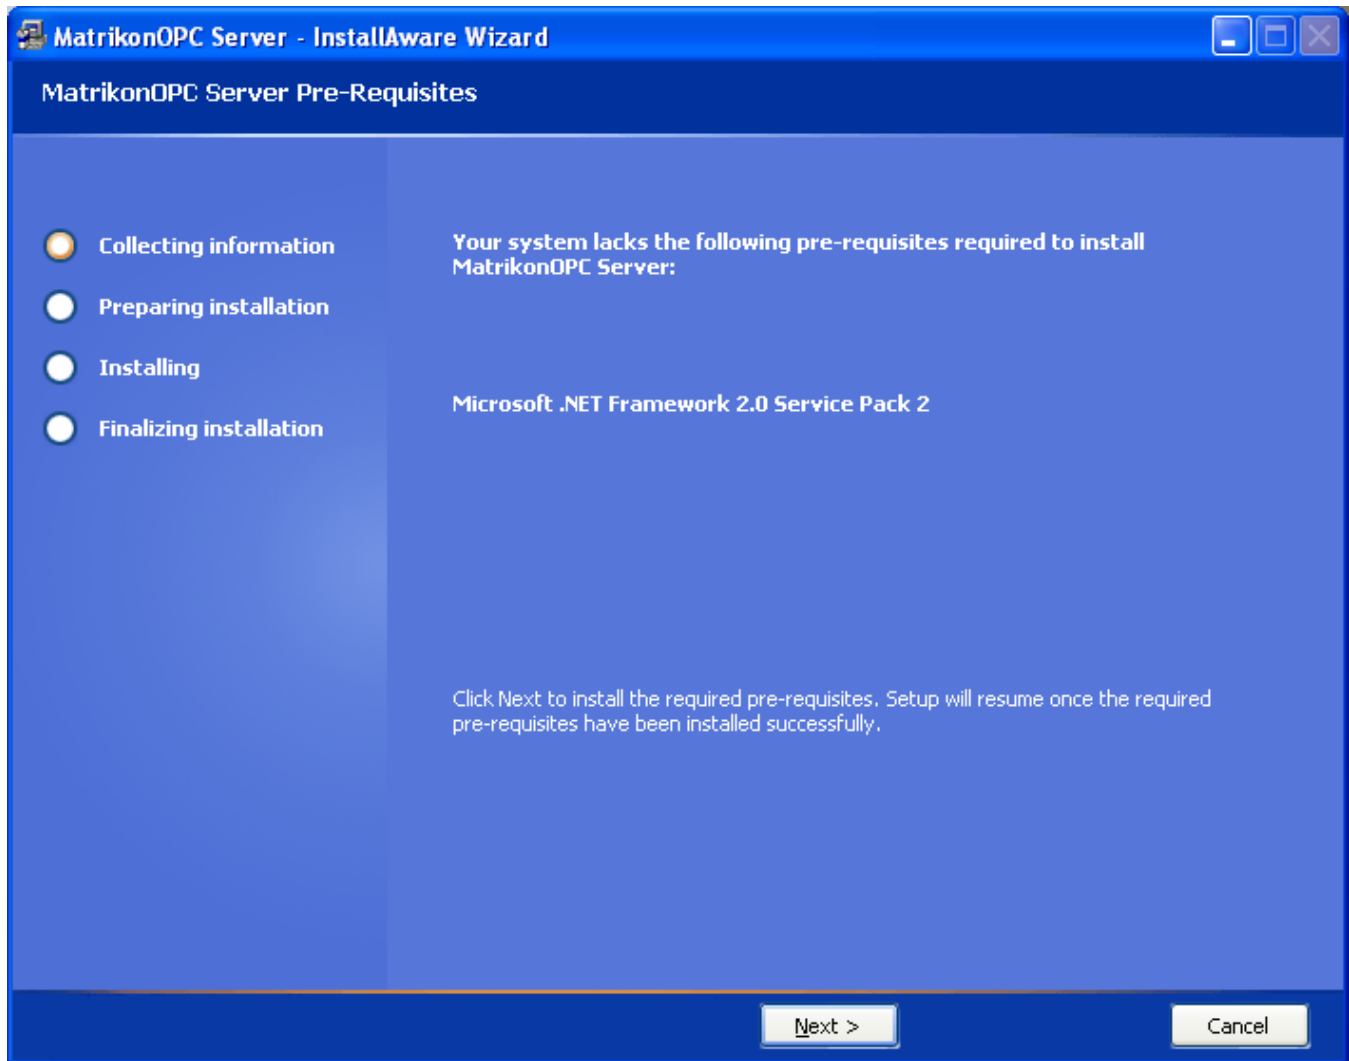
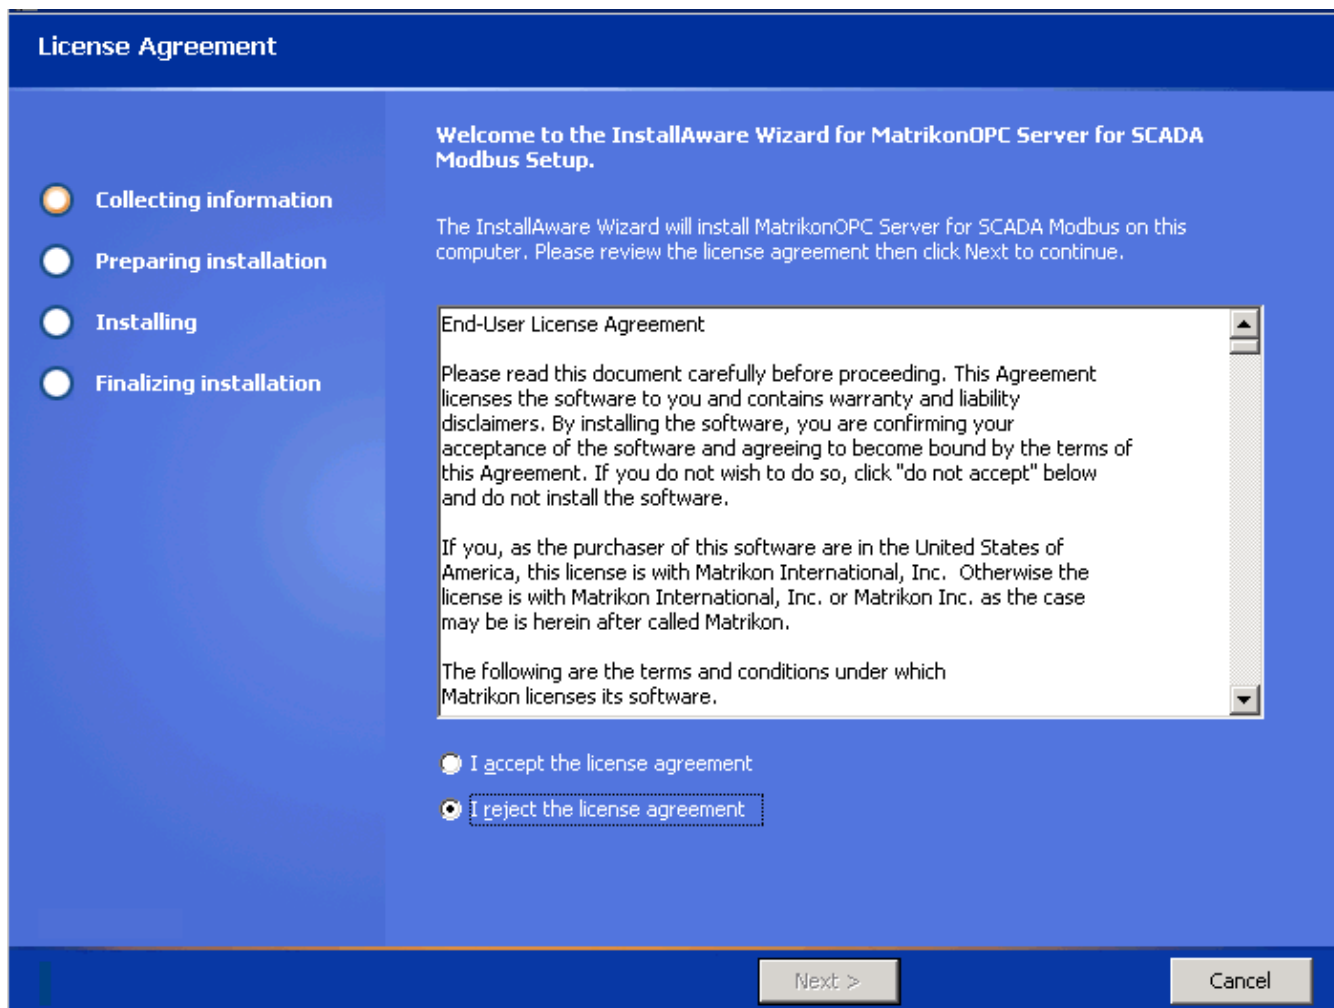

Figure 84 - Pre-Requisites Screen
Figure 85 - License Agreement Screen
3. Either a **Pre-Requisites** screen (Figure 84) appears, or you are taken directly to the **Licensing Agreement** (Figure 85) screen. If the **Licensing Agreement** screen is the displayed screen, go to step 5.
5. After all pre-requisites have been installed, the **License Agreement** screen (Figure 85) appears.